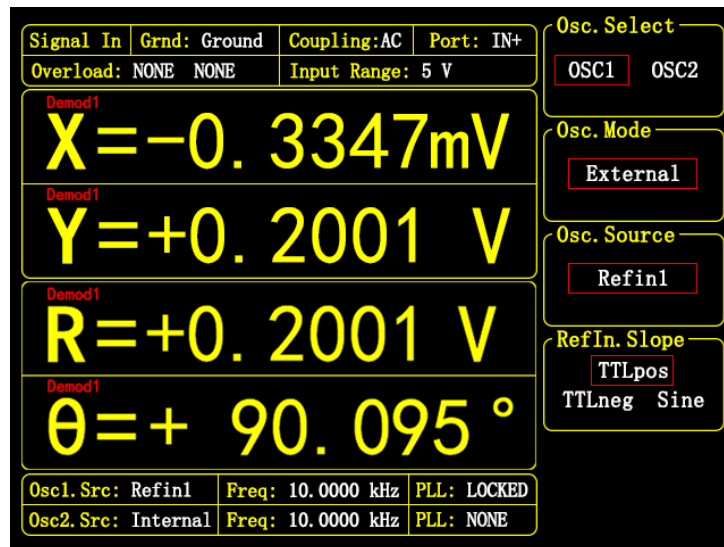
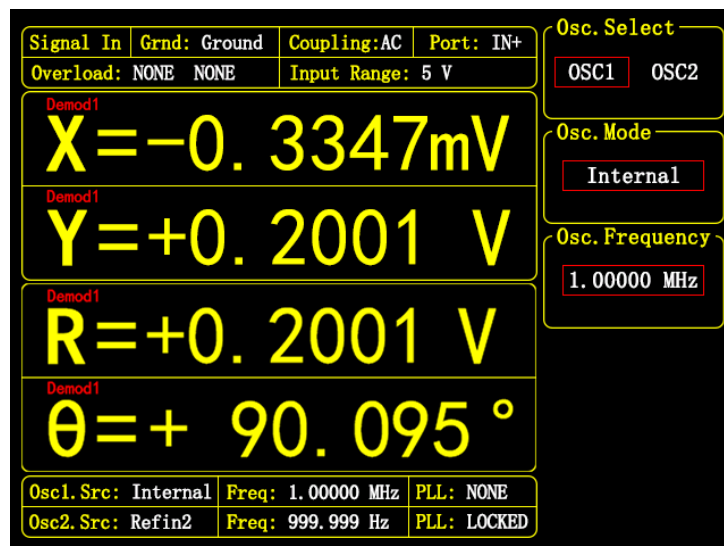

Figure 42. [OSC REF] submenu-<External>
Figure 43. [OSC REF] submenu-<Internal>
Select the [OSC REF] submenu from the front-panel menu bar. This menu is used to configure the hardware settings of the reference input channel and the operating modes of the two oscillators, OSC1 and OSC2. Different configuration modes display different interfaces, as shown in Figure 42 and Figure 43.
- <External> : External mode. The OE2021 sets the current oscillator to external mode. In this mode, the reference signal input through the REFIN BNC connector is connected to the oscillator and phase-locked inside the instrument. Due to the phase-locked loop, the oscillator output signal tracks the external reference signal in real time. The interface in this mode is shown in Figure 42, where <Osc.Source> can be configured.
- <Internal> : Internal mode. The OE2021 sets the current oscillator to internal mode. In this mode, the oscillator is connected to the internal crystal oscillator of the instrument, and the reference signal is generated internally. The REF IN input signal is not used. The interface in this mode is shown in Figure 43, where <Osc.Frequency> can be configured.